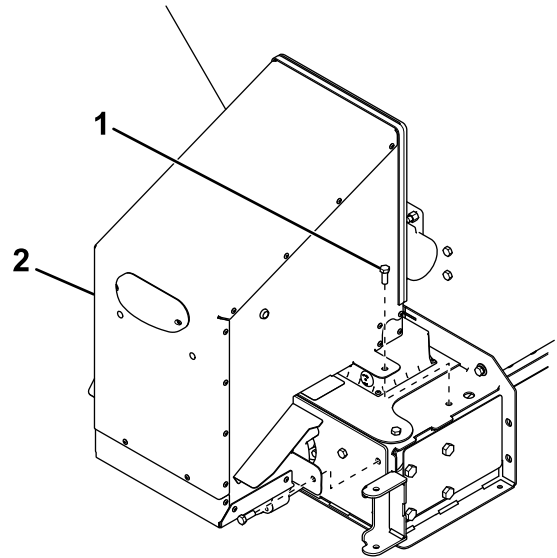

Figure 2
- For Forge spreaders, remove the bolts securing the rear cover to the hopper (Figure 2).